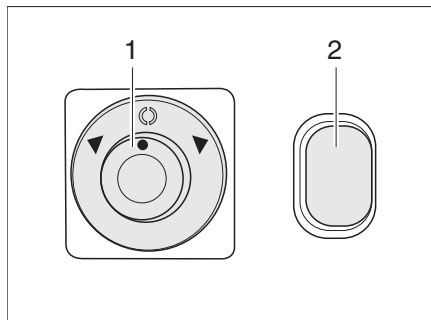

Fig. 24 Switch for electrically adjustable external mirrors and mirror heater
- Select the mirror to be adjusted. To do so, turn the rotary switch (Fig. 24,1) to the left or right.
- Adjust the mirror by pressing the switch (Fig. 24,1) in the appropriate direction.
- Press the switch (Fig. 24,2). The switch indicator lamp lights up in orange and shows it is in operation.